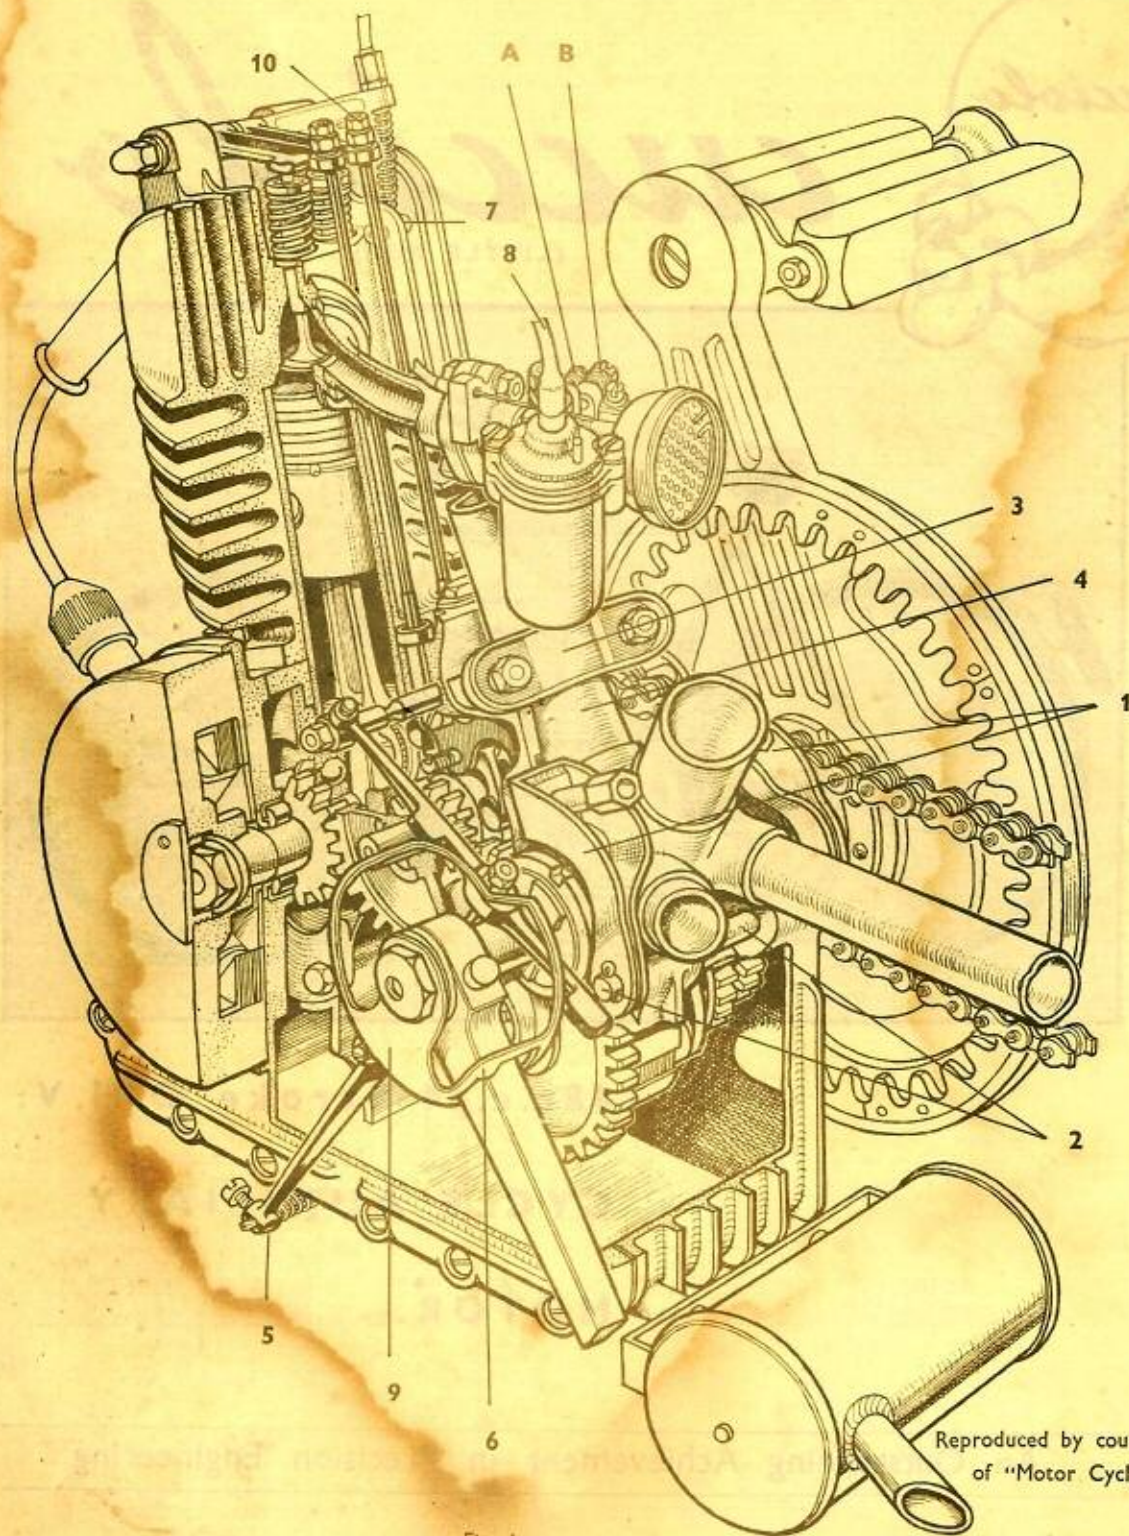
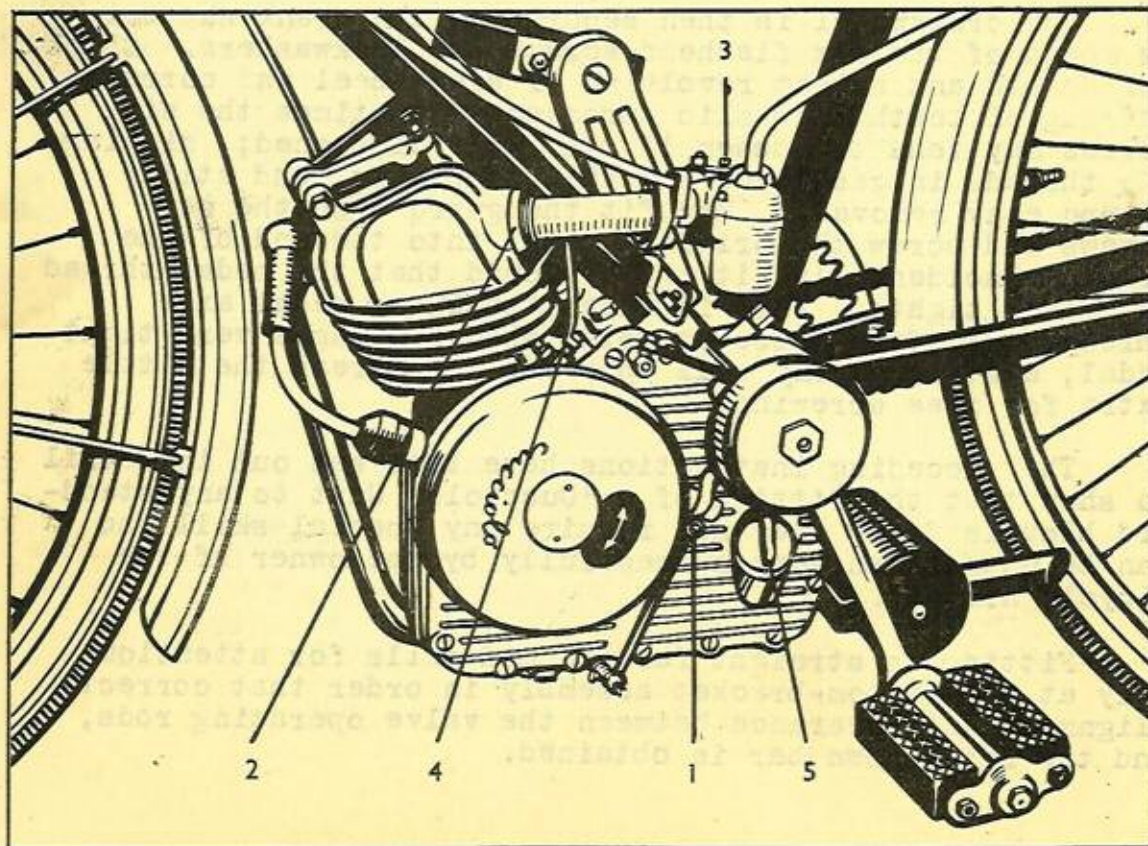

Fig. 1
FIG. 3
With a total weight of approximately 200 lbs. between the rider and the bicycle, petrol consumption is about 275 miles per gallon at an average speed of 17-19 m.p.h. on level roads. With steady riding on good surfaced level roads 300 miles per gallon has been obtained on continuous rides of 60-80 miles, at an average speed of 14-16 m.p.h. The carburettor has two adjustment screws, "A" & "B" (Fig 1.). The screw "A" will adjust the ratio of petrol to air for idling mixture, and has been adjusted at the factory for normal running.
4. Fitting of the Motor to the frame (fig 1).
In order to synchronise the gear change it is necessary to free completely the screw which will register the clutch (1) (Fig 3). Assemble the lever of the change on the clutch lever and fit the washer and split pin. Hold the change into neutral and the left pedal down. Thread the Bowden wire into the eyelet of the clutch lever (5) (Fig 1) and pull until the two contacting parts are about $3/32$ " from the pre-selector bell shaped cam. The Bowden wire should then be locked with the screw (5) (Fig 1). The screw (1) (Fig. 3.) is then registered to contact the clutch and locked by its locking nut. With the left pedal forward the low gear will automatically be engaged by actuating the clutch lever (the gear shifting pin should be right in). With the left pedal down the gear change will be cut back into neutral position. With the left pedal backwards (or correspondingly the right pedal forward) the top gear will become engaged. (The gear changing pin will then be right out).
When either of the two gears are engaged the pedal must revolve backwards (or anti-clockwise) freely with the bell shaped cam selector touching the gear changing lever. Should it be found necessary to register the automatic gear to have greater distance between the bell shaped gear selecting cam and the gear lever, it will be sufficient to insert between the gear selecting cam of the pedal axle, a suitable washer in order that the internal part of the bell shaped gear selecting cam shall always be well "shouldered" to the pedal crank, on the other hand, should it be found necessary to bring the cam nearer to the gear lever, the two shoulders on the cam (6) Fig 1. can be filed away, allowing the cam to go farther up to the pedal crank.
(b) The carburettor should be perfectly level. Its position can be corrected by loosening the round screw (2) (Fig 3) which locks the induction pipe to the motor. Fit the Bowden cables, which are supplied already connected to their levers, to the carburettor, the Bowden wire to the throttle is threaded in the hole of the little thimble on the lever of the carburettor throttle and locked with the screw (3) (Fig.3.). The Bowden wire for the valve lifter is fixed on the top part of the cylinder head with a small nipple (7) (Fig 1.). Note that the operation of the valve lifter control is "inverse", that is, the Bowden Wire is fixed while the casing does the "pushing" therefore, do not tape the casing too tightly to the bicycle frame. For neatness the casing can be passed through a small piece of metal tubing or sleeve, 1" long, and this sleeve can then be neatly taped to the down-bar, together with the clutch and throttle Bowden control casings. It is recommended to oil or grease the inner cable of all Bowden controls before fitting, thus ensuring smooth and long life service. The suitable fitting of the controls is as follows:-
(c) Fit the plastic petrol tube to the petrol tank cock and on to the carburettor petrol inlet (8) (Fig.1.). (For easy fitting dip ends of tube in hot water for a few seconds). The pipe may be secured along side the seat-bar with tape.
The bicycle headlight wire should be secured to the lug screwed on the insulated terminal (4) (Fig.3.). Check that engine is in good electrical contact with the bicycle frame, also the headlamp bracket. About twelve watts are available from the flywheel generator, sufficient for bright headlight and tail light illumination. As electric current will be always available when the engine is running, provision for a switch must be made in the headlamp electrical circuit.
ATTENTION: Carefully avoid short circuiting the electrical circuit of terminal (4) (Fig 3) while engine is running; the magnetic fields of the flywheel would be cancelled in a very short time were this to occur and spark plug would cease to operate.
LUBRICATION: Every motor is delivered dry, before it is started, unscrew the plug on the left side of the engine (5) Fig. 3. fill the crank case with a little less than one pint of motor oil, as stated in the specifications on page 23.